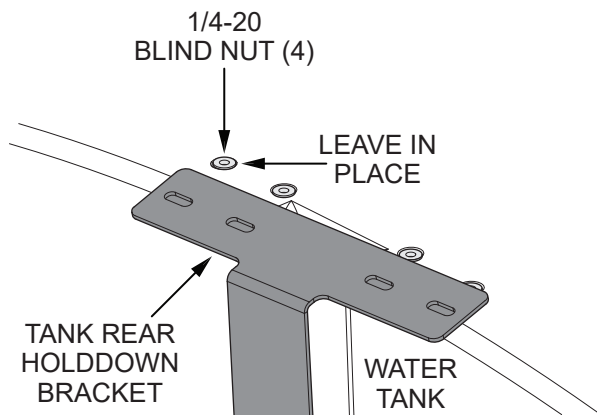

**Figure 4. Install Tank Support Bracket (Front Of Tank)**
2. Place a **tank support bracket (P/N 59668)** onto the front end of the water tank as shown in Figure 4.
- The fill riser support bracket should be on top of the tank support bracket as shown in Figure 4.
3. Make sure the **tank lid lanyard** is looped around the **fill riser support bracket** as shown in Figure 4. The lanyard loop should be positioned between the two slotted holes at either end of the bracket.
4. Use the **four 1/4-20 × 1-1/4 hex flange screws** and **four 1/4-20 blind nuts** from step 1 to secure the two brackets to the water tank (Figure 4).